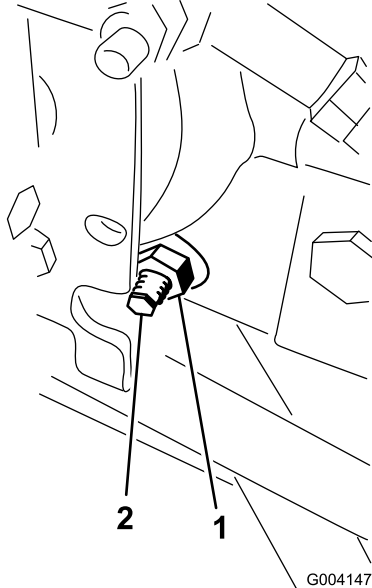

Figure 60
3. On the right side of the hydrostat, loosen the locknut on the traction-adjustment cam (Figure 60).